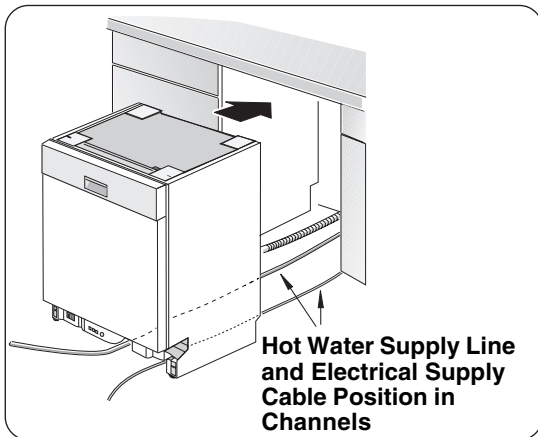

Figure 18
- 2 Position the dishwasher close enough to the enclosure so that you can run the dishwasher drain hose to the under sink drain connection. Make certain that the hot water supply line and the electrical supply cable are in their channels under the dishwasher base, as shown in **Figure 18**.